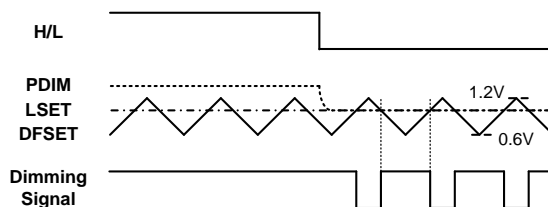

Figure 11: Dimming Signal Generation
1.2V via an external resistor divider connected from VREF to the LSET pin. When compared to the DFSET triangular ramp waveform, the LSET voltage determines the duty cycle of the final dimming signal (see Figure 11).